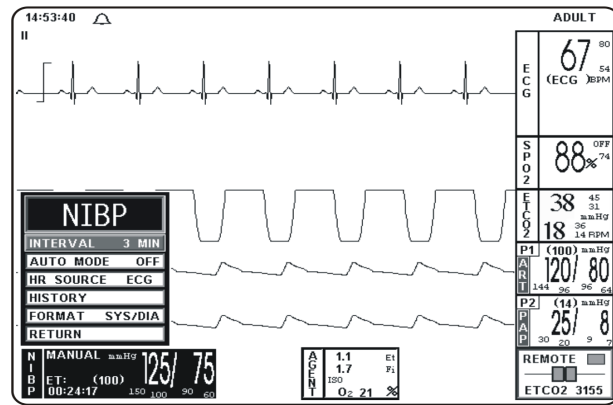

Figure 4-10. The NIBP Menu
4.4.3 The NIBP Menu. Selecting the **NIBP** Menu-Select Icon will bring up the **NIBP** Menu (See **Figure 4-10**). This menu provides the operator with the ability to switch the Automatic Mode On and OFF, set the automatic reading interval, set the Heart Rate source and bring up a Tabular Chart containing a History of the NIBP, Heart Rate, ETCO2/Respiration and SpO2 determinations. *This menu has a time-out feature. If no action is taken for approximately 60 seconds, the monitor will automatically return to the Normal Screen.*